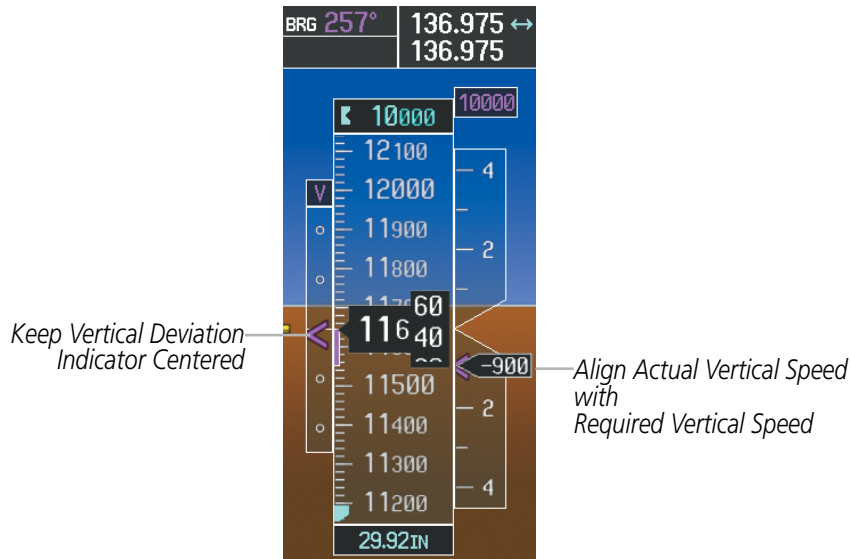

Figure 5-136 VDI & RVSI Showing Correctly Established Descent
- 16) Upon reaching TOD, a descent vertical speed is established by placing the VSI pointer in line with the RVSI as shown in Figure 5-136.